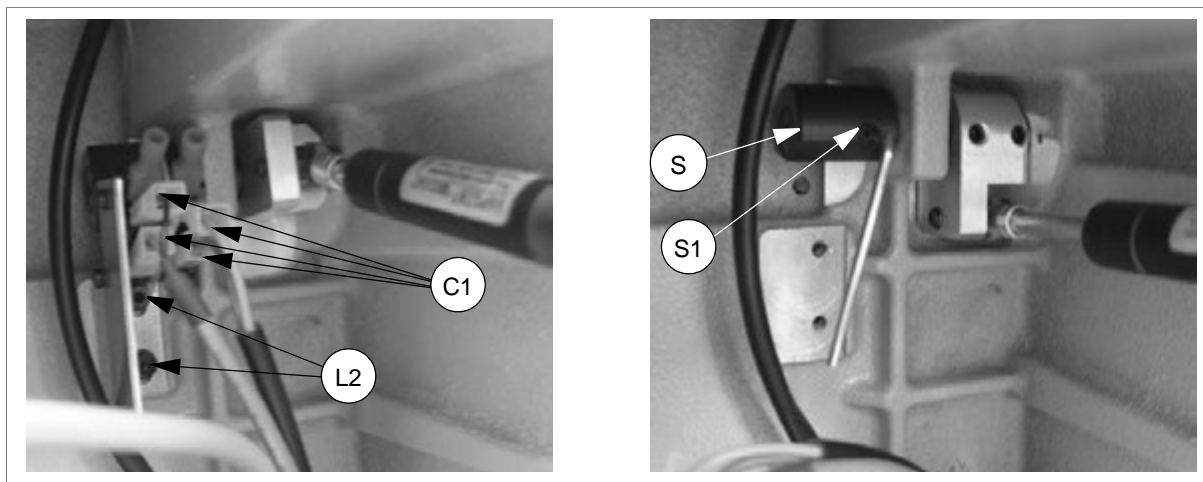

Fig. 83
- 2) check the connecting wires on the two microswitches (C1 - fig. 83).
- 4) loosen the two screws (L2) and remove the microswitch plate; lower the protective shield (V).
- 5) use the 2,5 mm T wrench to loosen the grub screw (S1 - fig. 83).
- 6) turn the cam (S) until the microswitches click, with the microswitch plate installed.
- 2) loosen the two screws (L2) and remove the microswitch plate (fig. 83).
- 3) disconnect the wiring between the two microswitches (C1) (fig. 83).